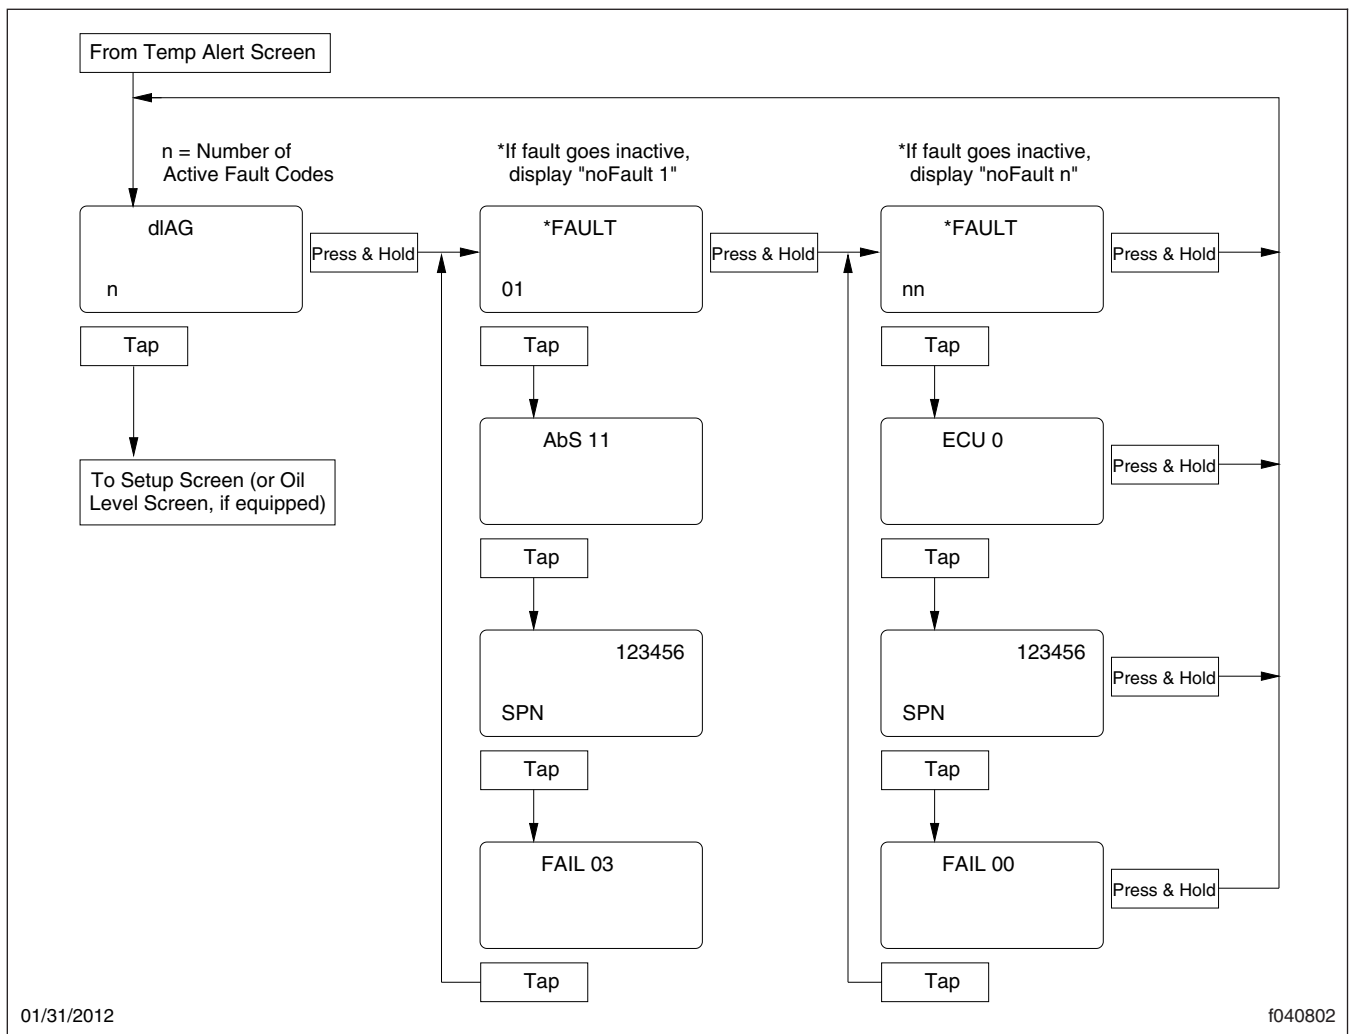

Fig. 4.8, ICU4 Diagnostic and Engine Display Screens
During vehicle start-up, with the parking brake set, the ICU4 will display any active fault codes for three seconds each until the parking brake is released. If service cycle screens are enabled and service distance or time has been exceeded, the text SERVICE HOUR/MI (KM) will be displayed to inform the driver that the service interval has been exceeded and vehicle service is required. See Fig. 4.8 for a the diagnostic and engine display screens.